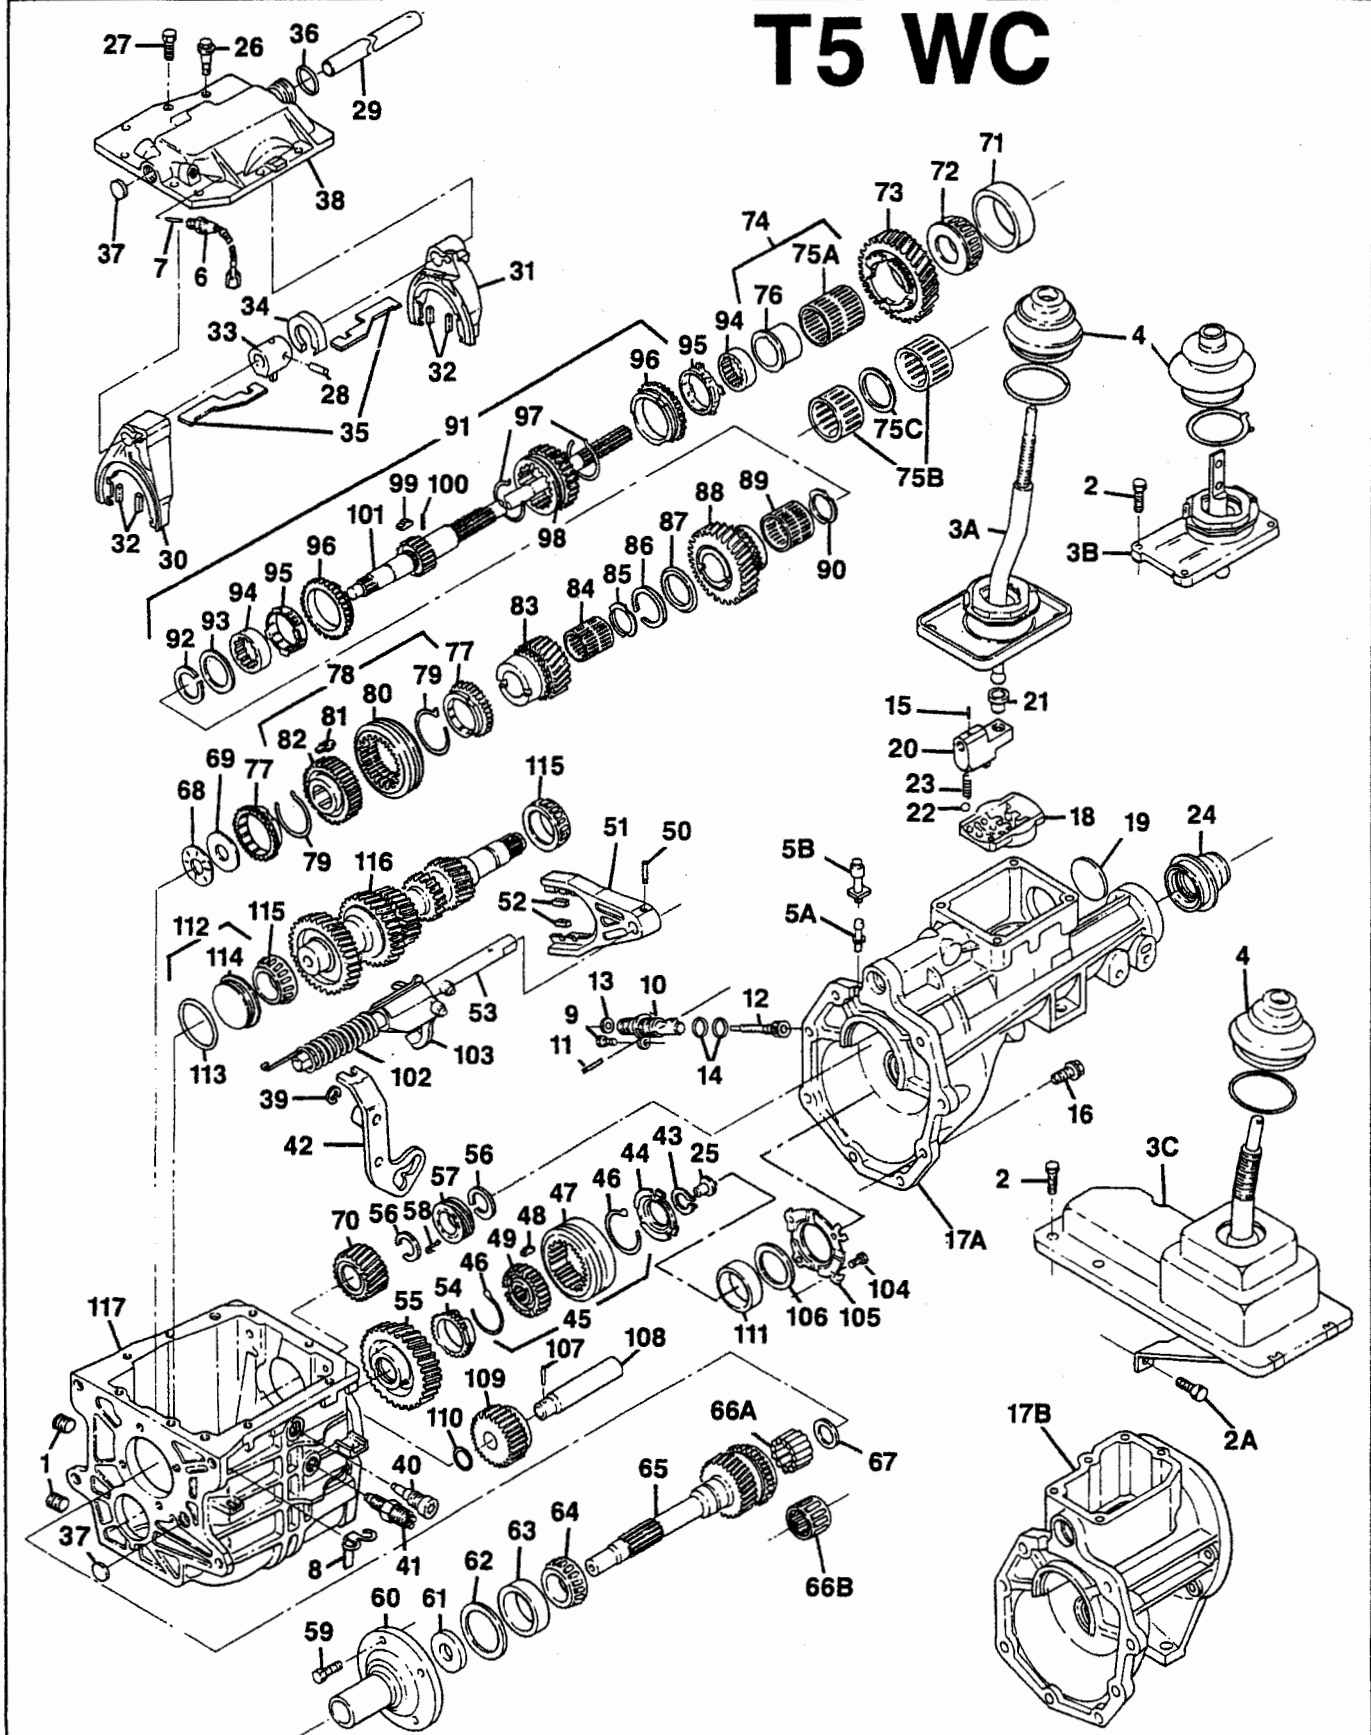

Figure 5-1. T5 WC Manual Transmission
- a. **T5 WC Anti-Friction Bearings** (see figure 5-1):
- Bearing cone (64)
- Thrust bearing (68)
- Bearing cone (72)
- Needle bearing (84)
- 2nd speed bearing (89)
- Bearing cones (115)
LEGEND FOR T5 WC, FIGURE 5-1
LEGEND FOR T5 WC, FIGURE 5-1 (CONT)